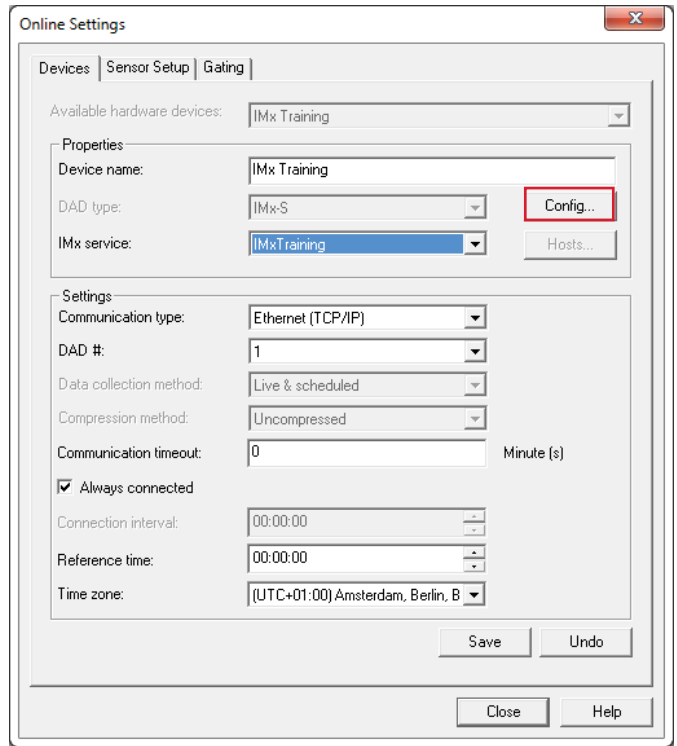

Fig. 22. Enter the online settings.
- Click **Add** and enter a **Device name** (→ fig. 22).